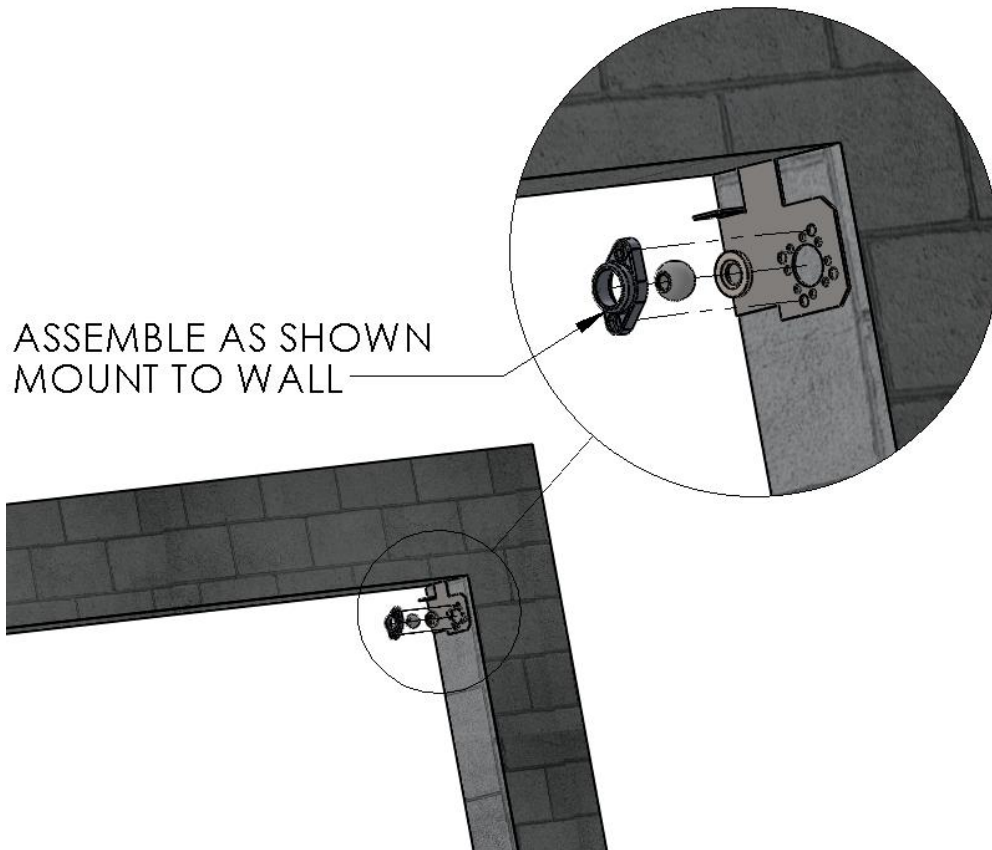

Figure 2 INSTALL HEADER BRACKET AND IDLER ASSEMBLY
2. Insert your Wall Mounting Hardware through Idler Bearing assembly (3 pieces), and through the R.H. Header Mounting Bracket, into the Mounting Surface. (Figure 2 INSTALL HEADER BRACKET AND IDLER ASSEMBLY)